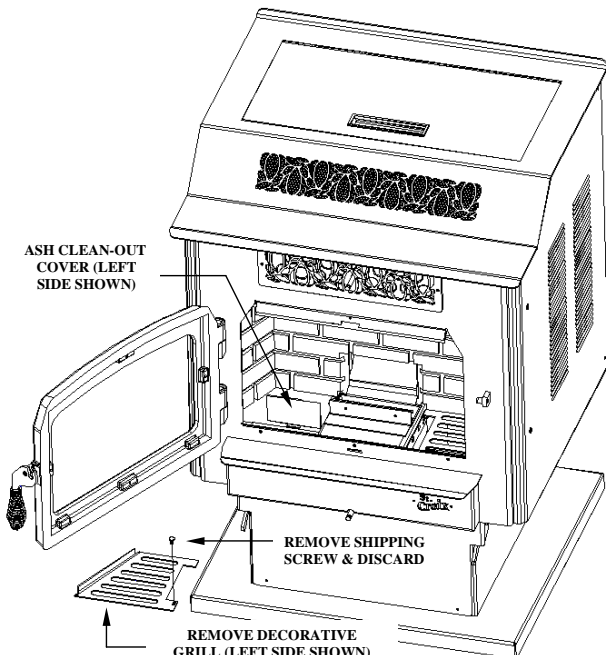

Figure 7
2. The Prescott models have 3 Exhaust Cleanout/Ash Trap covers, 2 of which are located below the rear brick panel and a 3rd Clean Out is located behind the Ash Pan. Remove covers and clean regularly. (See stoves shown in Figure 7) Be sure to clean both sides.
1. **Spring Shutdown.** After the last burn in the spring, cool the stove. Remove all pellets from the hopper and the auger. Thoroughly clean the burn grate, burn grate box, ash pan and ash traps behind the ash pan. (*To locate the ash traps see Figure 7 on page 11*)